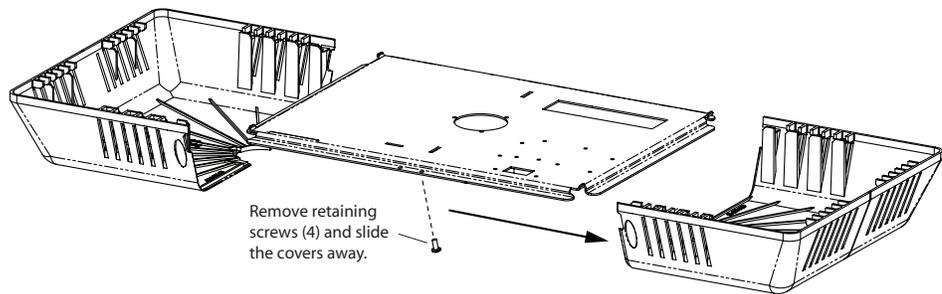

Figure 2-1 — Remove the PMK 550 covers
1. Remove the cover securing screws and slide the two plastic covers away from the mounting plate (see figure 2-1).